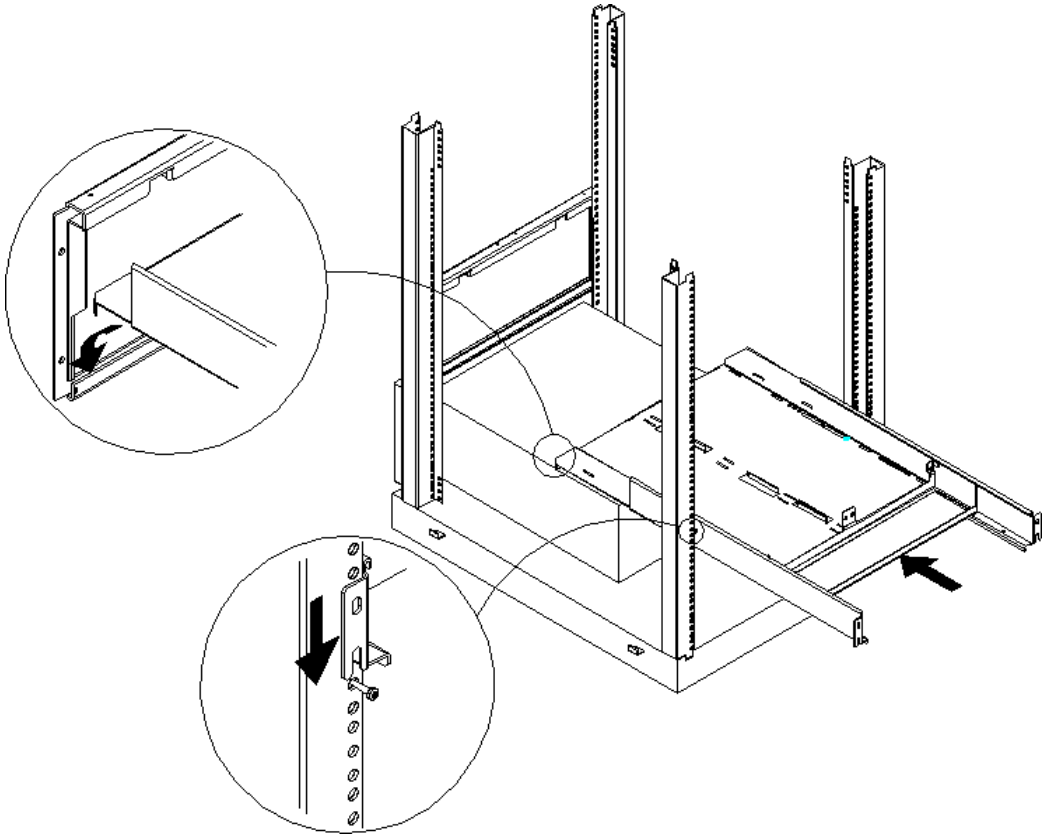

FIGURE 1-5 Shelf Installation
4. Slide the shelf through the back of the rack until the front lip is over the bezel and the rear portion of the shelf slides over the back screws (FIGURE 1-5).